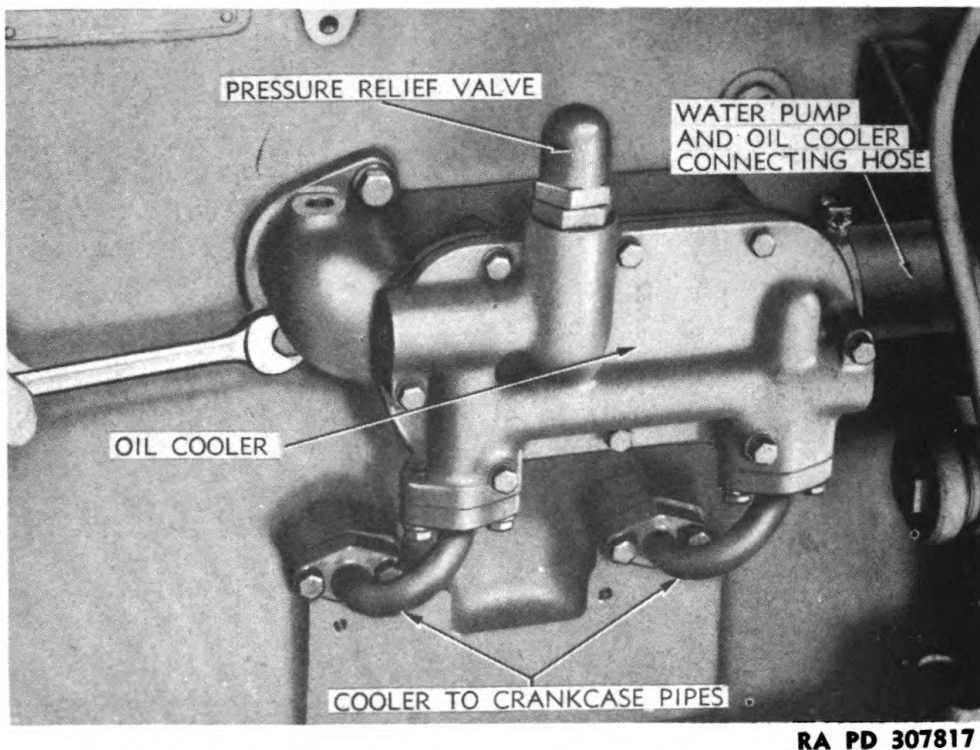

Figure 13 — Oil Cooler Removal
j. Remove Lubricating Oil Cooler (fig. 13). Loosen clamp on hose connecting water pump and cooler. Disconnect lower ends of oil cooler to crankcase pipes from cylinder block by removing two cap screws and lock washers from each pipe attaching flange. Remove the two cap screws and lock washers attaching cooler assembly